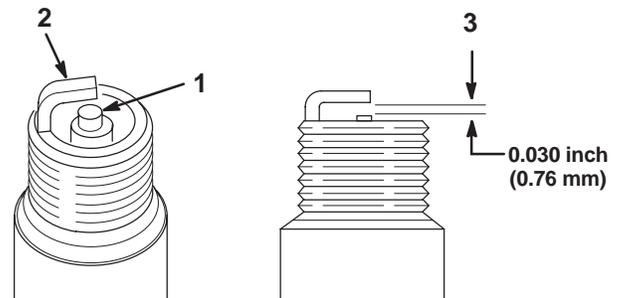

Figure 41
1. Look at the center of the spark plug(s) (Fig. 41). If you see light brown or gray on the insulator, the engine is operating properly. A black coating on the insulator usually means the air cleaner is dirty.
2. Check the gap between the center and side electrodes (Fig. 41). Bend the side electrode (Fig. 41) if the gap is not correct.